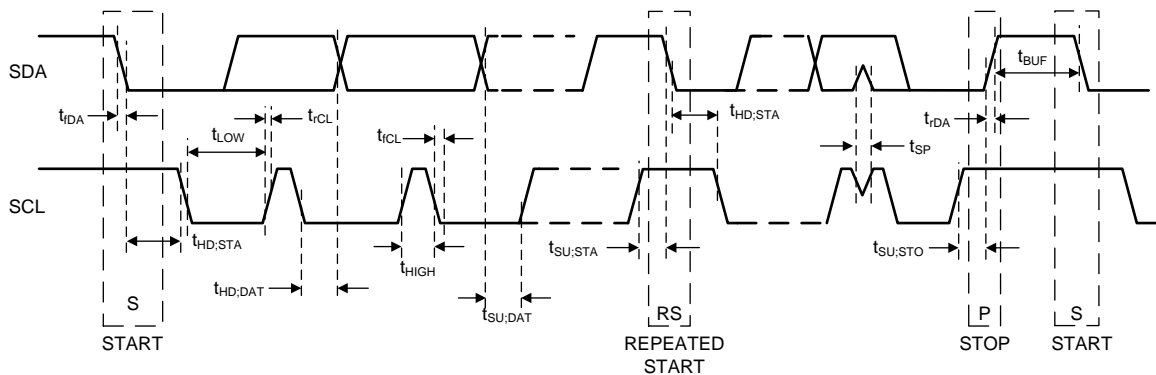

图 1. I2C Timing
These specifications are ensured by design. Unless otherwise noted,  $V_{IN\_BX} = 3.7$  V. See (1) and 图 1.
These specifications are ensured by design. Unless otherwise noted,  $V_{IN\_BX} = 3.7\text{ V}$ . See (1) and 图 1.